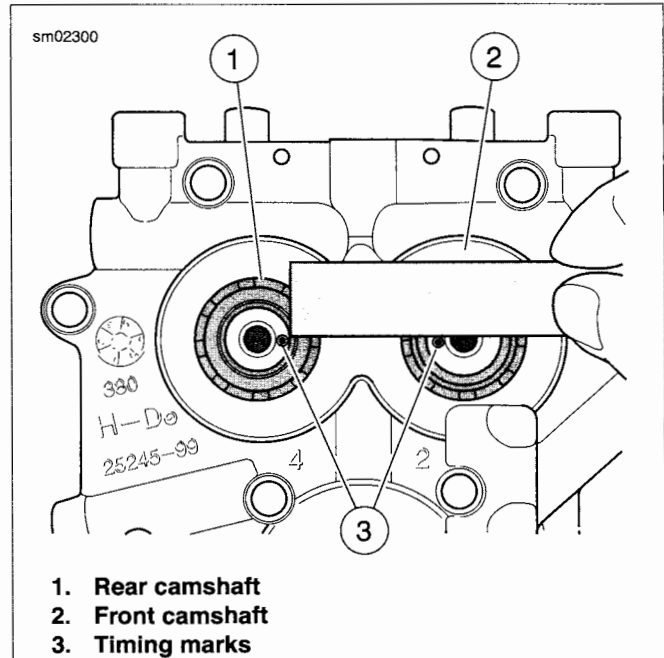

Figure 3-77. Verify Alignment of Timing Marks
- See Figure 3-77. Using a straightedge, verify that the timing marks on the ends of the front and rear camshafts are in alignment. If necessary, rotate camshafts in order to make this observation.